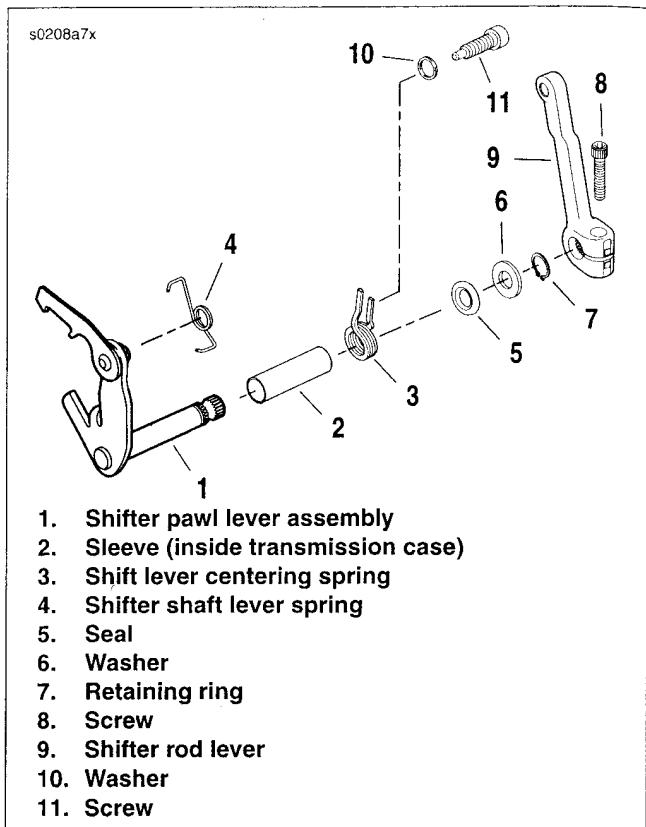

Figure 7-38. Shifter Arm Assembly
1. See Figure 7-38. After removing door assembly, remove screw (8) and shifter rod lever (9) from the shifter pawl lever assembly (1).
2. Remove retaining ring (7), washer (6) and seal (5). Discard retaining ring and seal. Pull shifter pawl lever assembly out of the transmission case.
3. Inspect sleeve (2) inside transmission case.
5. See Figure 7-38. Inspect the shifter pawl lever assembly (1) for wear. If pawl ends are damaged, replace assembly.
1. See Figure 7-38. Verify that sleeve (2) is inside transmission case.
6. See Figure 7-38. Install shifter rod lever (9) on the shifter pawl lever assembly shaft end using screw (8). Tighten to 18-22 ft-lbs (24.4-29.8 Nm).